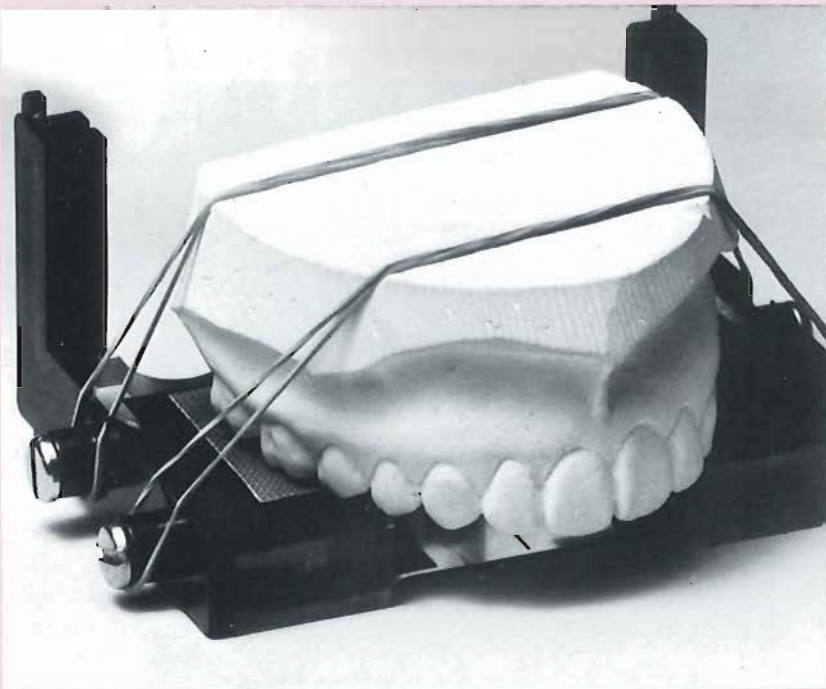

Fig. 1
**2** Mark the mid-palatal plane on the maxillary model. Secure the model against the upper member of the base unit with rubber bands (Fig. 1).